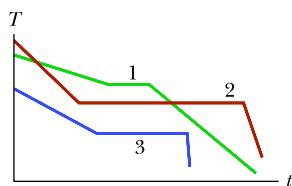

Figure 18.5 Question 9.
- 9** Three different materials of identical mass are placed one at a time in a special freezer that can extract energy from a material at a certain constant rate. During the cooling process, each material begins in the liquid state and ends in the solid state; Fig. 18.5 shows the temperature T versus time t .